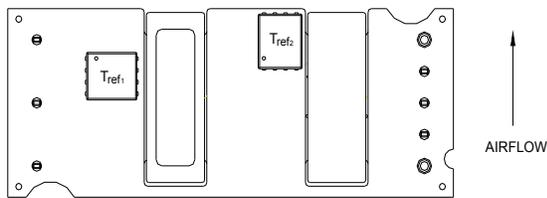
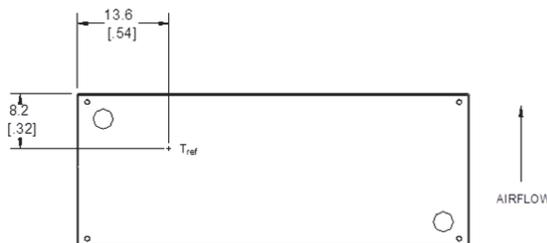

Figure 13. T_{ref} Temperature Measurement Locations for Open Frame Module.
Figure 14. T_{ref} Temperature Measurement Location for Module with Heatplate.
To provide protection under certain fault conditions, the unit is equipped with a thermal shutdown circuit. The unit will shutdown if the thermal reference point, T_{ref} , exceeds 122° and 123°C (Figure 13, typical or 105 °C (Figure 14, typical),, but the thermal shutdown is not intended as a guarantee that the unit will survive temperatures beyond its rating. The module will automatically restart upon cool-down to a safe temperature.
The thermal reference points, T_{ref1} and T_{ref2} , used in the specifications for open frame modules are shown in Figure 13. For reliable operation these temperatures should not exceed 122° and 123°C respectively.
The thermal reference point, T_{ref} , used in the specifications for modules with heatplate is shown in Figure 14. For reliable operation this temperature should not exceed 100 °C.